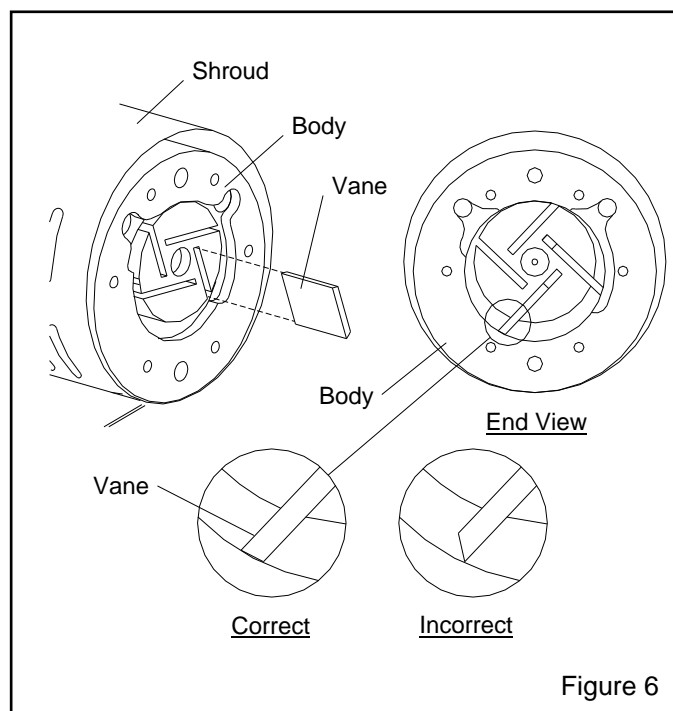

Figure 6
5.4.5 Before removing the vanes, note how the beveled edges on the vanes conform to the contour of the body bore, Ref. Figure 6. They must be reinstalled in the same position.
5.4.7 The vanes could be worn or require further cleaning. When reinstalling or replacing the vanes, face the bevels in the proper direction as shown in Figure 6.